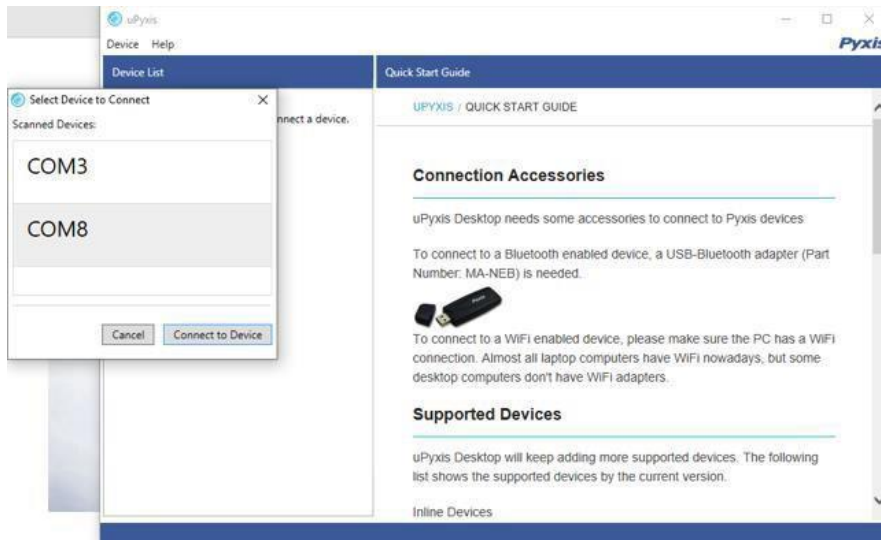

Figure 19 - Select a Comm Port
- 7) Select the Comm Port to make a connection. Normally only one Comm port is identified by uPyxis (Figure 19). If more than one Comm port listed in the selection dropdown, you may try to select each one to see if a connection can be made. Alternatively, you may use the Windows Device Manager to identify the Comm Port that the Pyxis USB adapter is using.